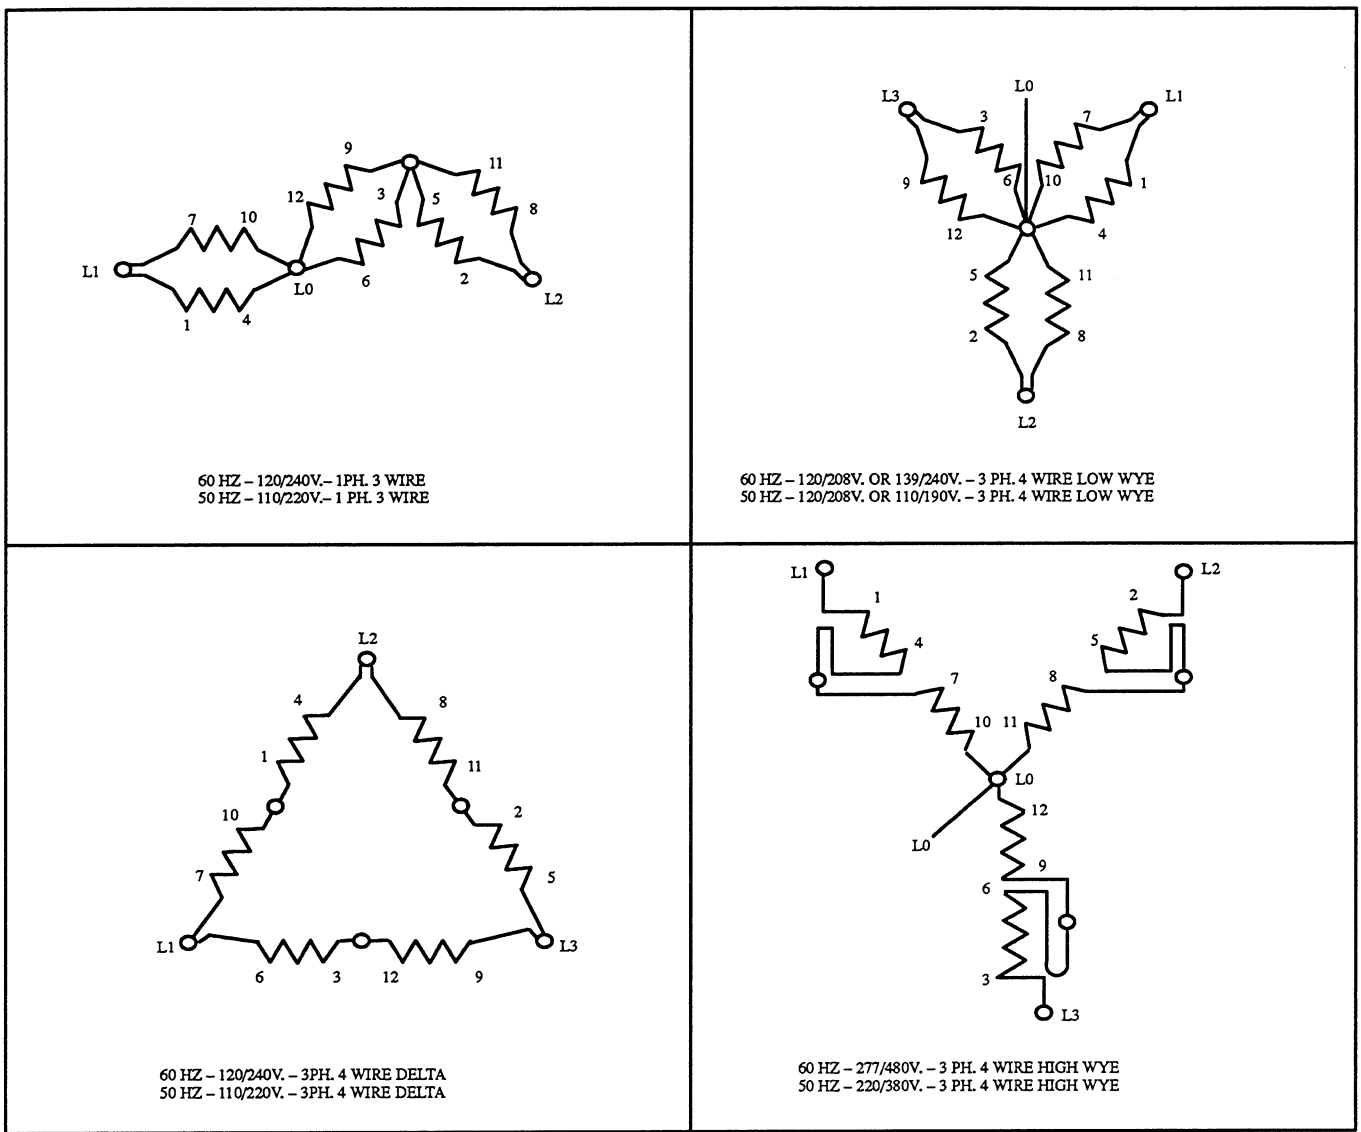

Figure 6-3. 12-Lead (CZ) Generator Reconnection
Three-phase generators can be reconnected to the voltages and phases shown in Figure 6-3. Observe the following safety precautions when performing this procedure.
3. Select desired voltage connection from Figure 6-3. Connect output leads according to the diagram for desired phase and voltage.